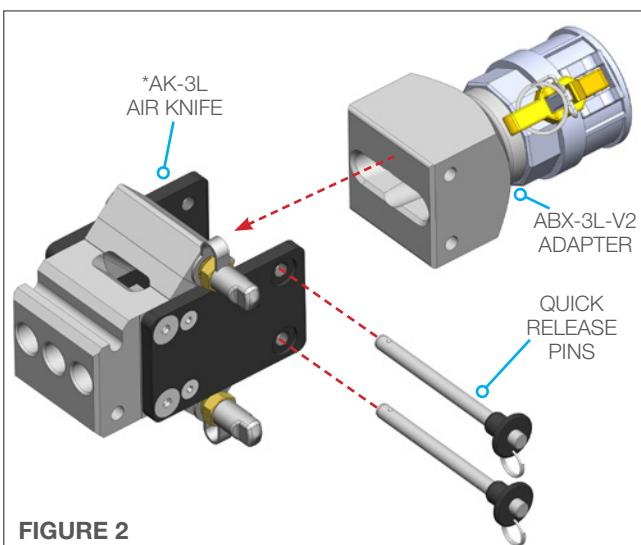

FIGURE 2
2. If using the Air Knife accessory; Remove the Quick Release Pins on the Air Knife and insert the plastic end of the Snout Adapter, aligning the holes with the holes on the Air Knife. Insert the Quick Release Pins through both parts and lock into place. This sub-assembly can remain together. (**Figure 2**)